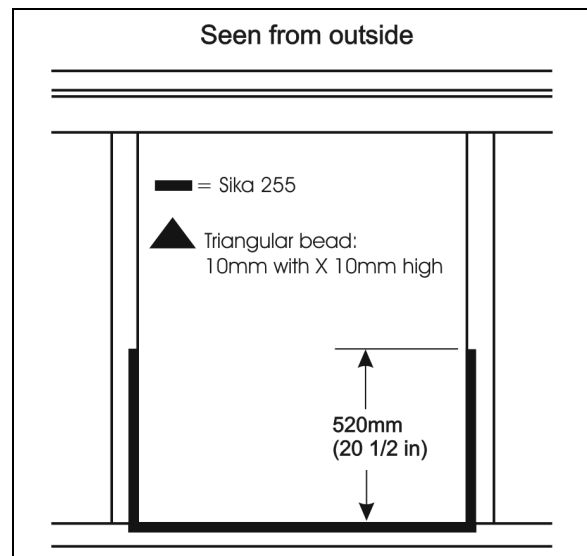

FIGURE 66: AWNING WINDOW – SIKI 255 APPLICATION
7. Apply Sika 255 as per FIGURE 66 (triangular bead: 10mm width X 10mm high).